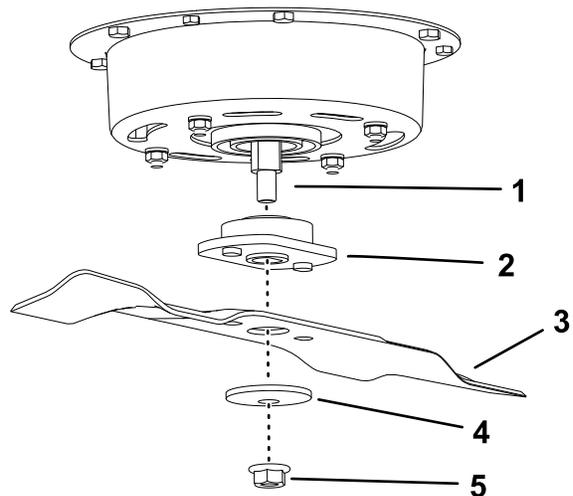

Figure 38
1. Install the blade and adapter onto the spindle shaft (Figure 38).